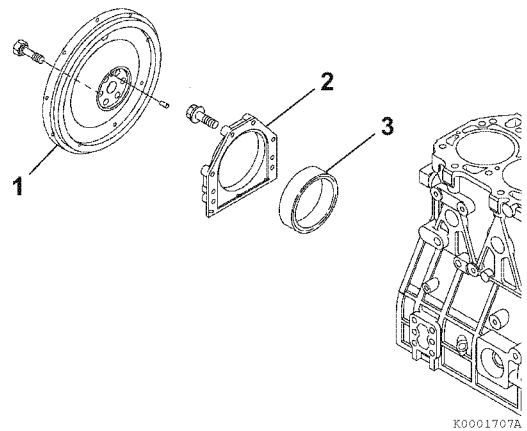

Figure 6-55
1. Remove the flywheel (1, **Figure 6-55**) from the crankshaft.
2. Remove the bolts from the rear oil seal assembly (2, 3, **Figure 6-55**). Remove the assembly from the engine.